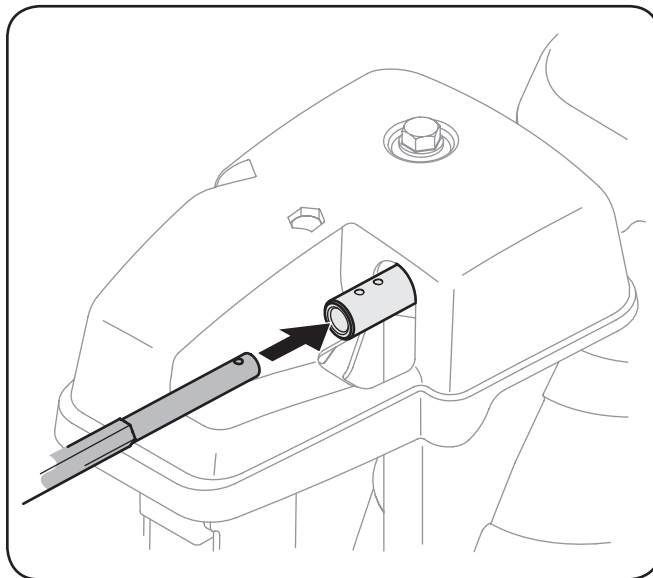

Figure 3-4
2. Insert control rod into the chute control head. Push rod as far into chute control head as possible, keeping the holes in the rod pointing upward. See Figure 3-4.